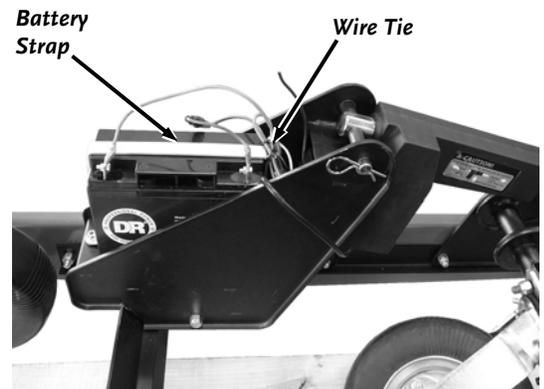

Figure 9
20. Secure the wires to the Battery Strap (**Figures 9**) using the Wire Tie included in the Parts Package.